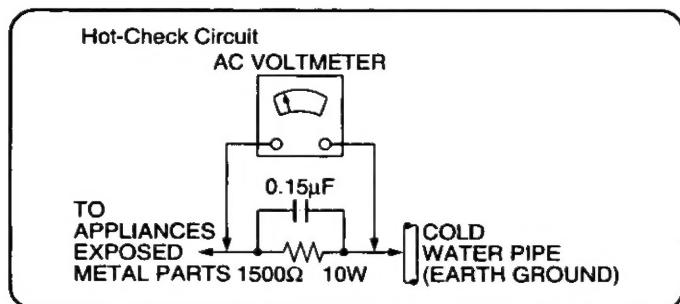

Figure 1
LEAKAGE CURRENT HOT CHECK (See Figure 1.)
2. Connect a 1.5k Ω , 10 W resistor, in parallel with a 0.15 μ F capacitor, between each exposed metallic part on the set and a good earth ground such as a water pipe, as shown in Figure 1.